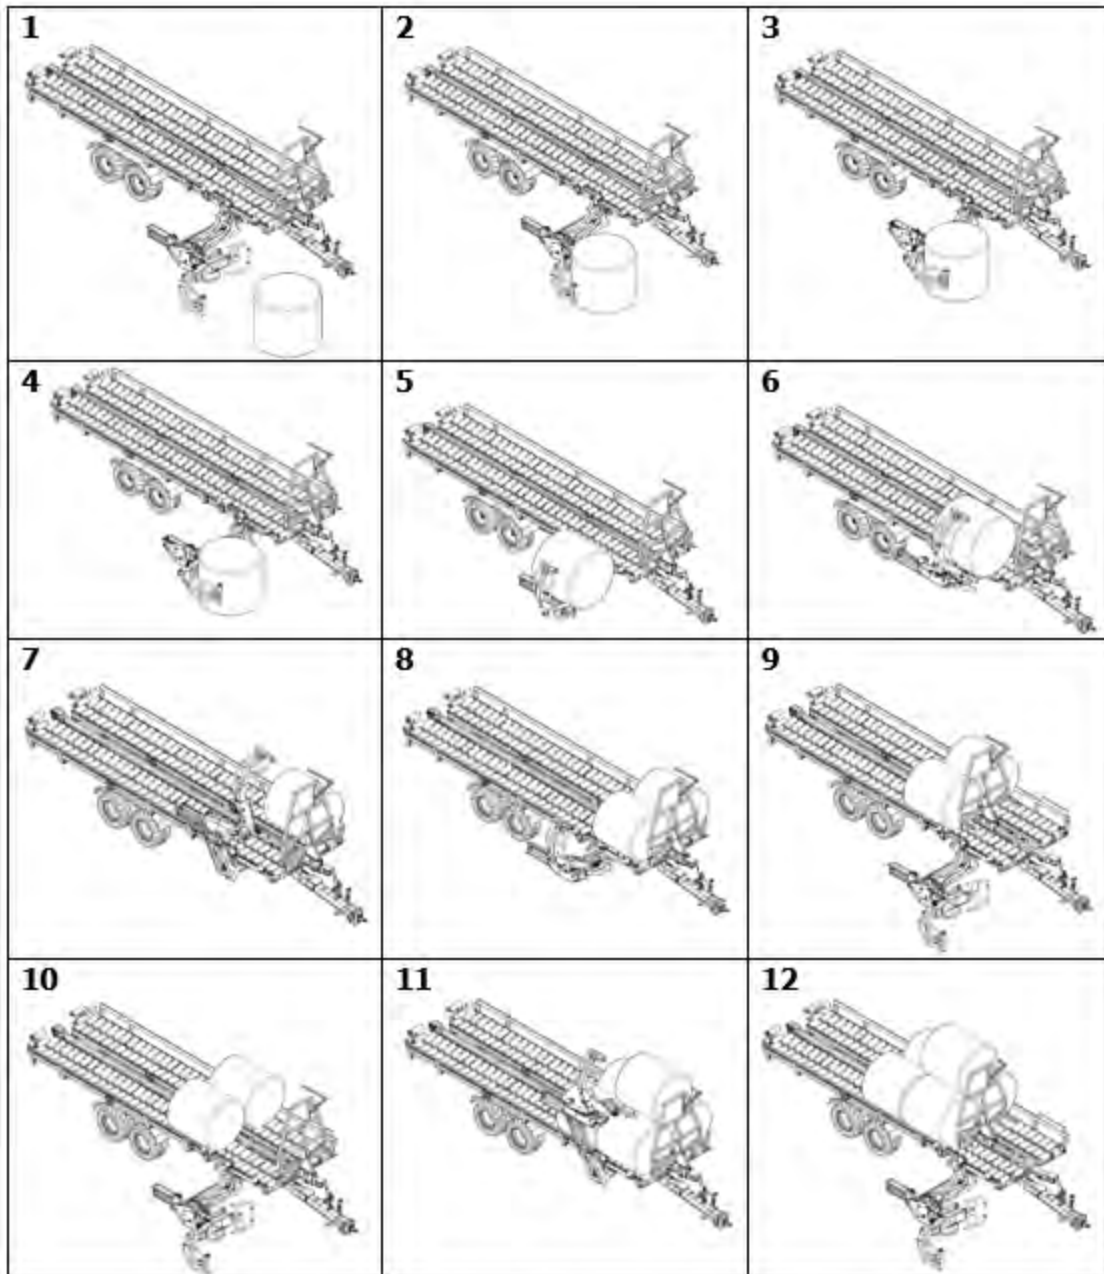
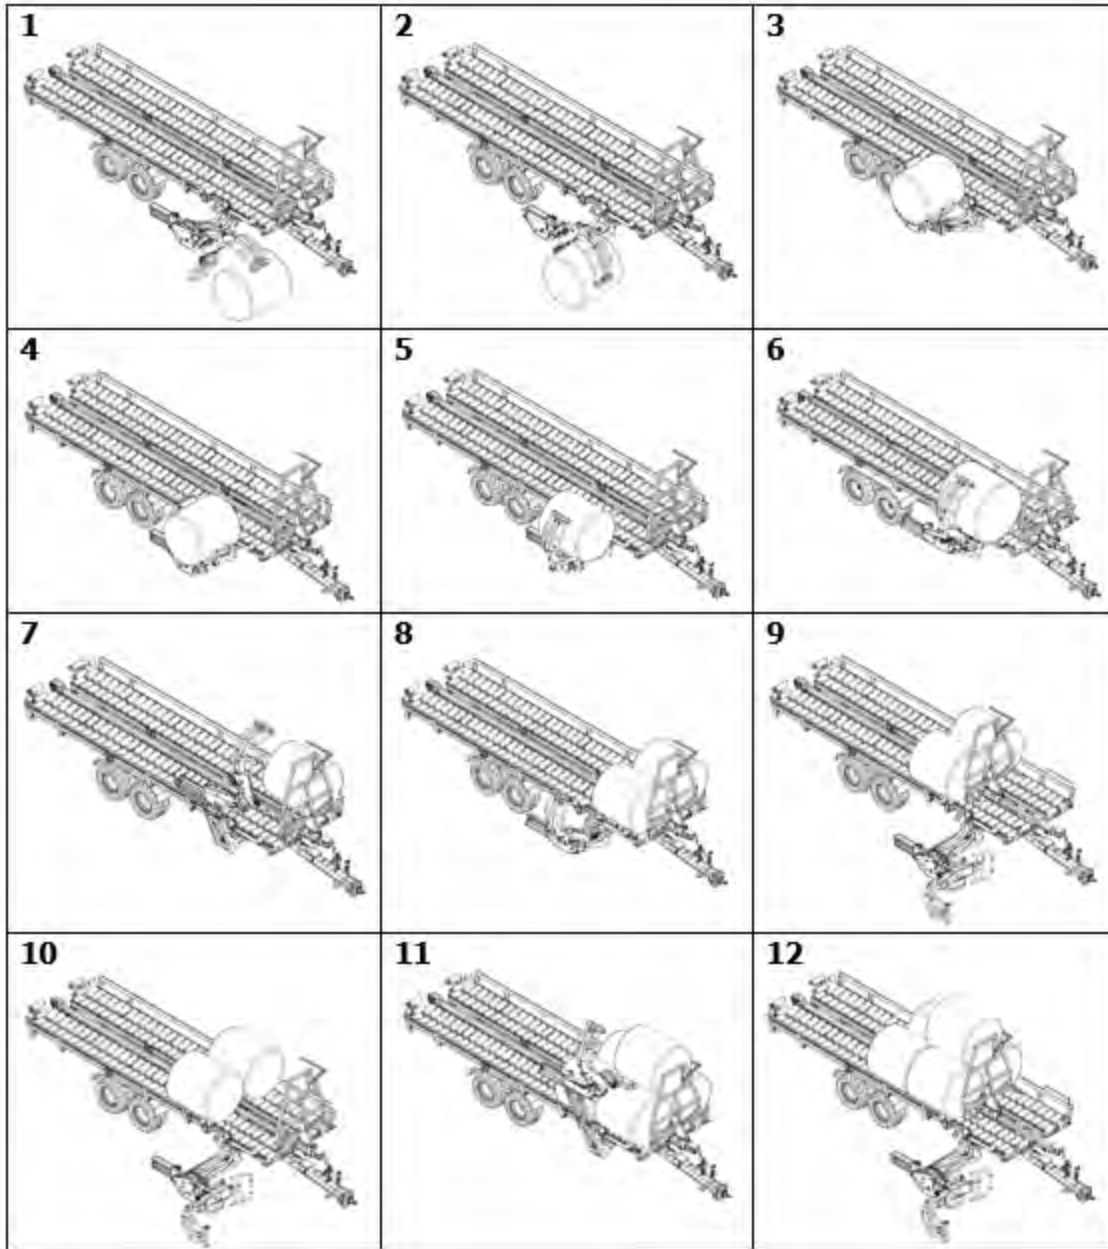

Figure 22 — Steps for Loading Vertical Bales
Figure 23 — Steps for Loading Horizontal Bales
3. Position the grabber so that its arms are on either side of the bale and slowly move forward. When the grabber sensors detect the bale, the loading sequence starts automatically. See Figure 22 for the loading sequence.
Figure 22 shows the automatic loading sequence for bales that were placed in vertical position, and Figure 23 for bales placed in horizontal position.